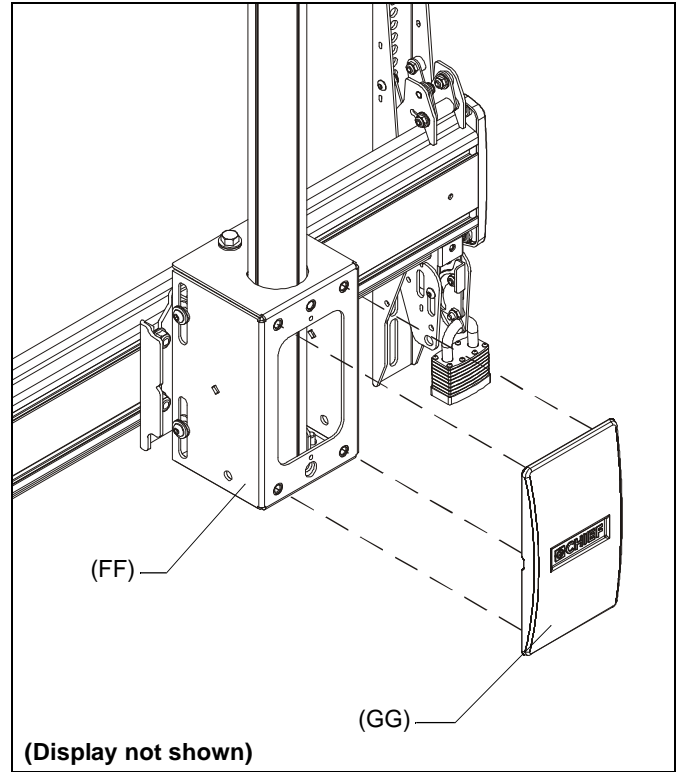

Figure 19
2. Install back cover (GG) into four holes on back of both array heads (FF). (See Figure 19)